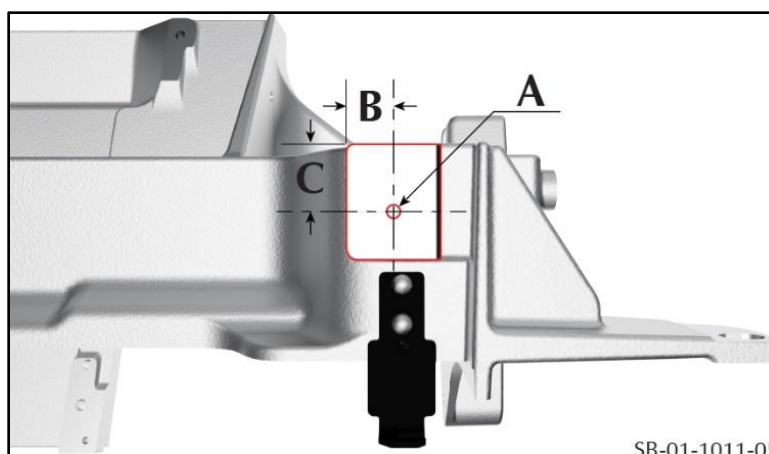

Figure 4
Figure 4 shows the initial design of the cross-car beam assembly. The hole (A) that has a thread for the M6 bolt is:
- 16.6 mm from the inboard edge (B)
- 23.3 mm from the rearward edge (C)